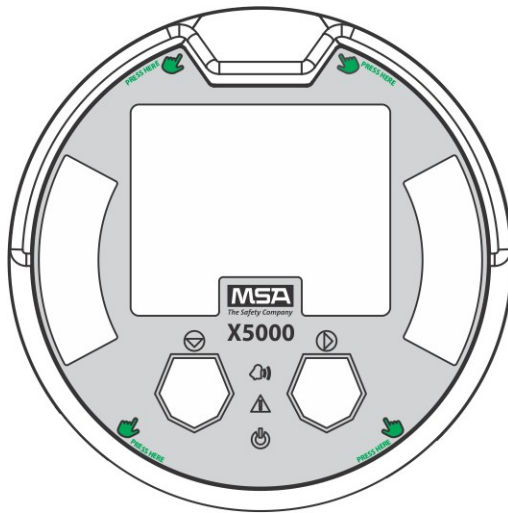

Fig. 22 Highlighted Areas Show Where to Press when Replacing a Board Stack
- (10) Replace the board stack by aligning the four metal standoffs with the four holes inside the TG5000 housing on the mounting plate. Push firmly on the board stack where indicated (see Fig. 22).